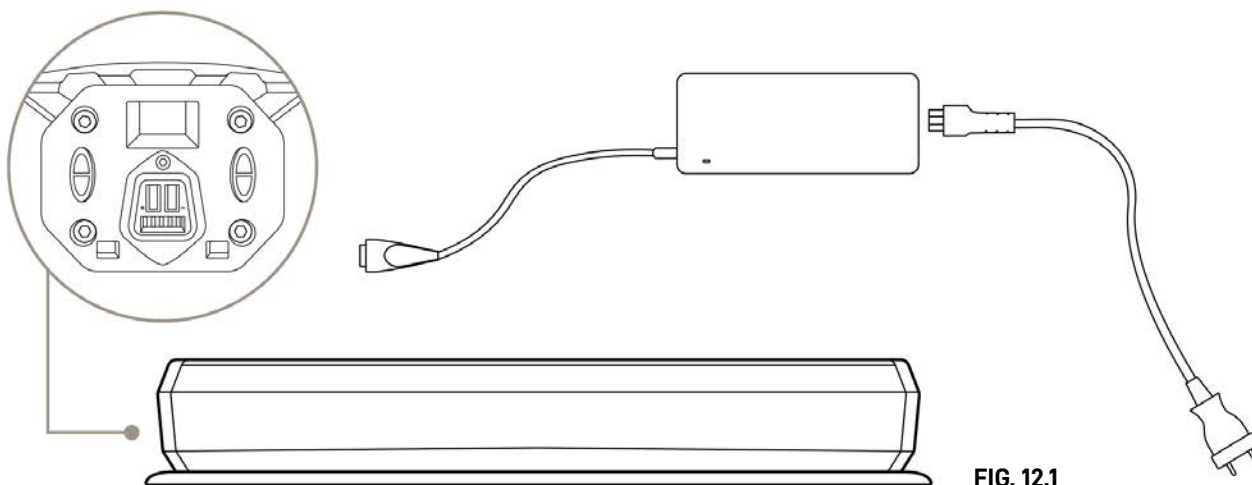

FIG. 12.1
3. Connect the supplied battery charger to the socket with the appropriate plug (Figure 12.1)